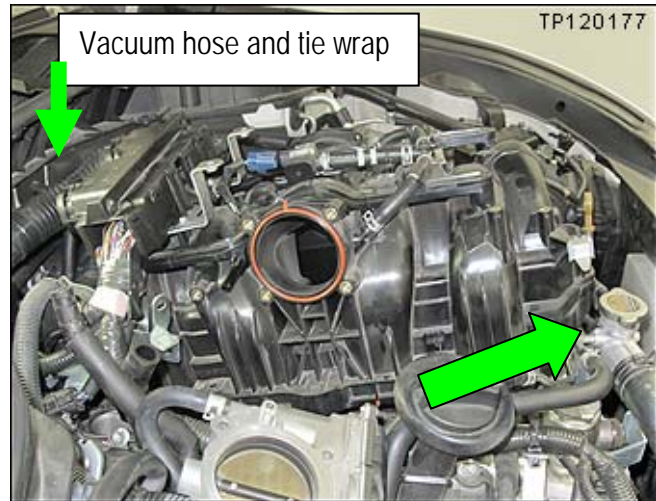

Figure 15m
- Look behind the intake manifold (see Figures 15m and 16m) and locate the hose.
- Look behind the intake manifold (see Figure 15m and 17m) and locate the tie-clip.